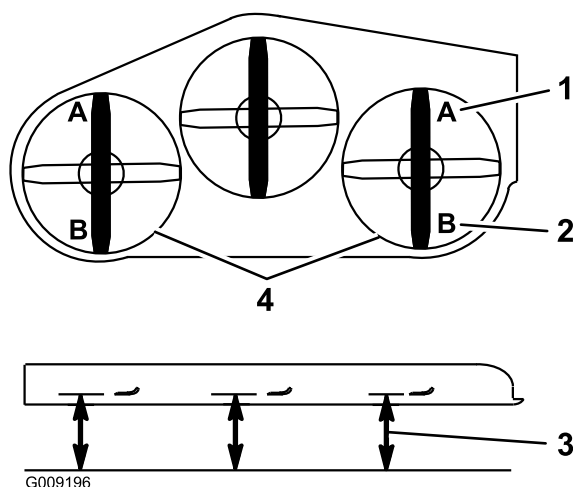

Figure 103
8. On both sides of the deck, measure from the level surface to the front tip of the blade (Position A) as shown in Figure 103.
14. On both sides of the deck, measure from the level surface to the back tip of the blade (position B) as shown in Figure 103.